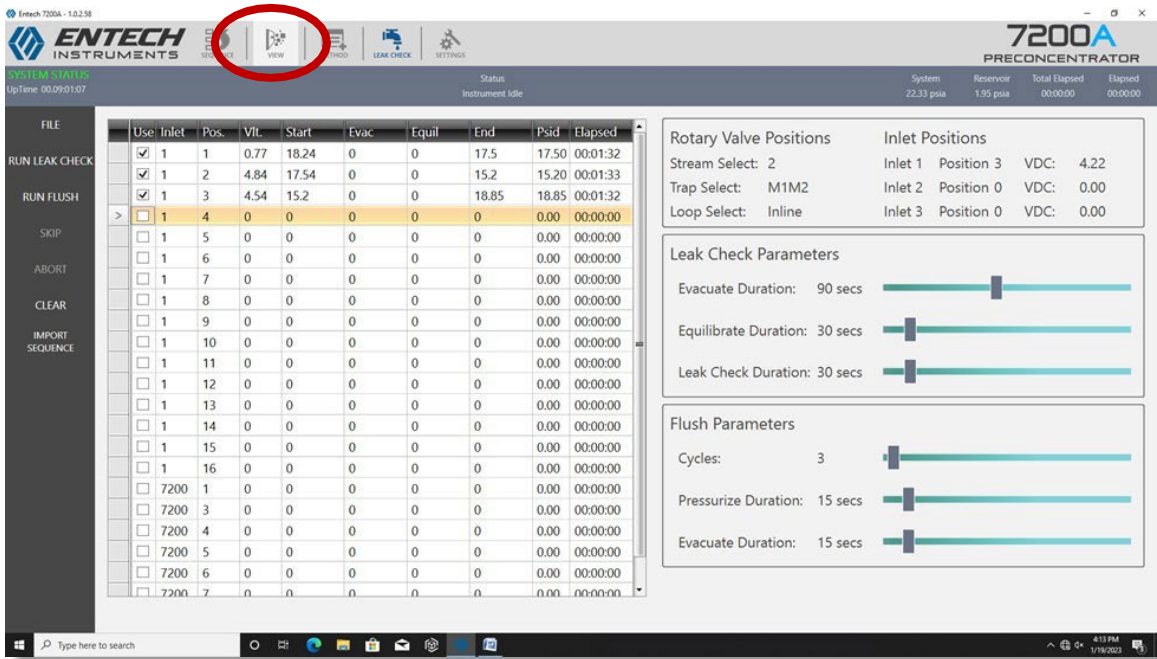

Figure 14. Entech leak check menu.
3. Click **View** on the top toolbar to exit the **Leak Check** menu (Figure 14).